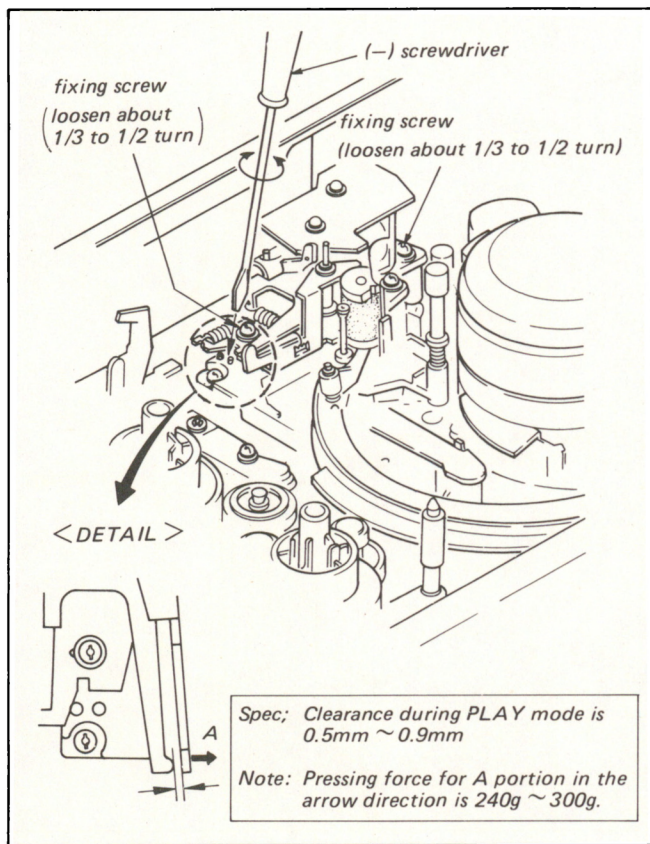

Fig. 6-12. Pinch roller pressure adj.
3. Confirm that the clearance shown in Fig. 6-12 satisfies the specification. If not, adjust as follows.
4. Perform adjustment by turning the screwdriver in the direction indicated by the arrow in Fig. 6-12. Loosen the fixing screws about 1/3 to 1/2 turn and do not loosen too much.